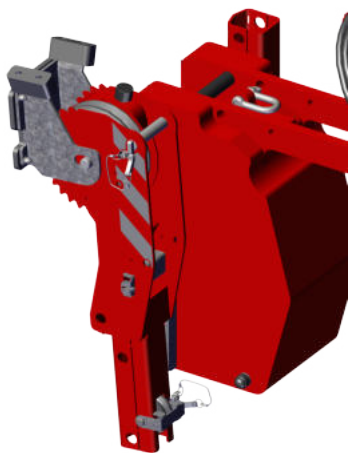

Figure 4.9 Winch head on counterweight
1. Remove the winch head from the counterweight support (see *Figure 4.9*).
2. Secure the winch head in the boom with the locking pin (1) and secure the pin.